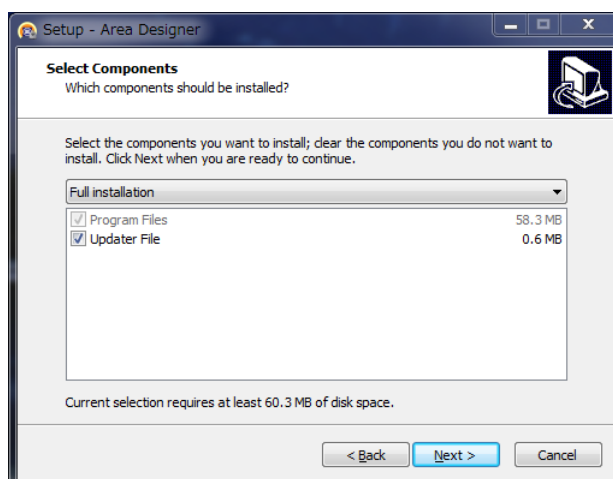

Fig 2-3 Select component
5. As shown in Fig 2-3 click “next” then user will be proceed to specify the program group of “Area Designer”. If there is no particular specification then click “next”.